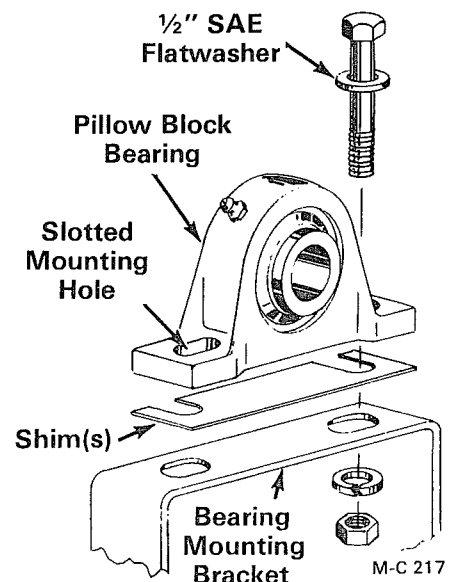

Figure 33
- Pulleys are out of alignment vertically** Raise or lower the output shaft and bearings as required by adding or removing shims under the bearings, see Figure 33.
- Pulleys are out of alignment horizontally** Loosen the bearing mounting capscrews and move the output shaft and bearings forward or back as required. The bearing mounting holes are slotted for this purpose, see Figure 33.